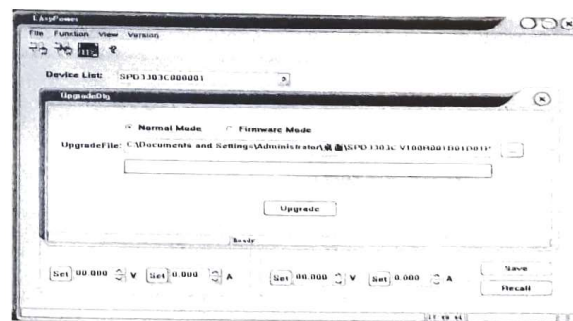

Figure 4
4. As it shows in figure 4, click the "Upgrade" to start upgrading. The instrument will run the upgraded software as soon as the upgrading completed.